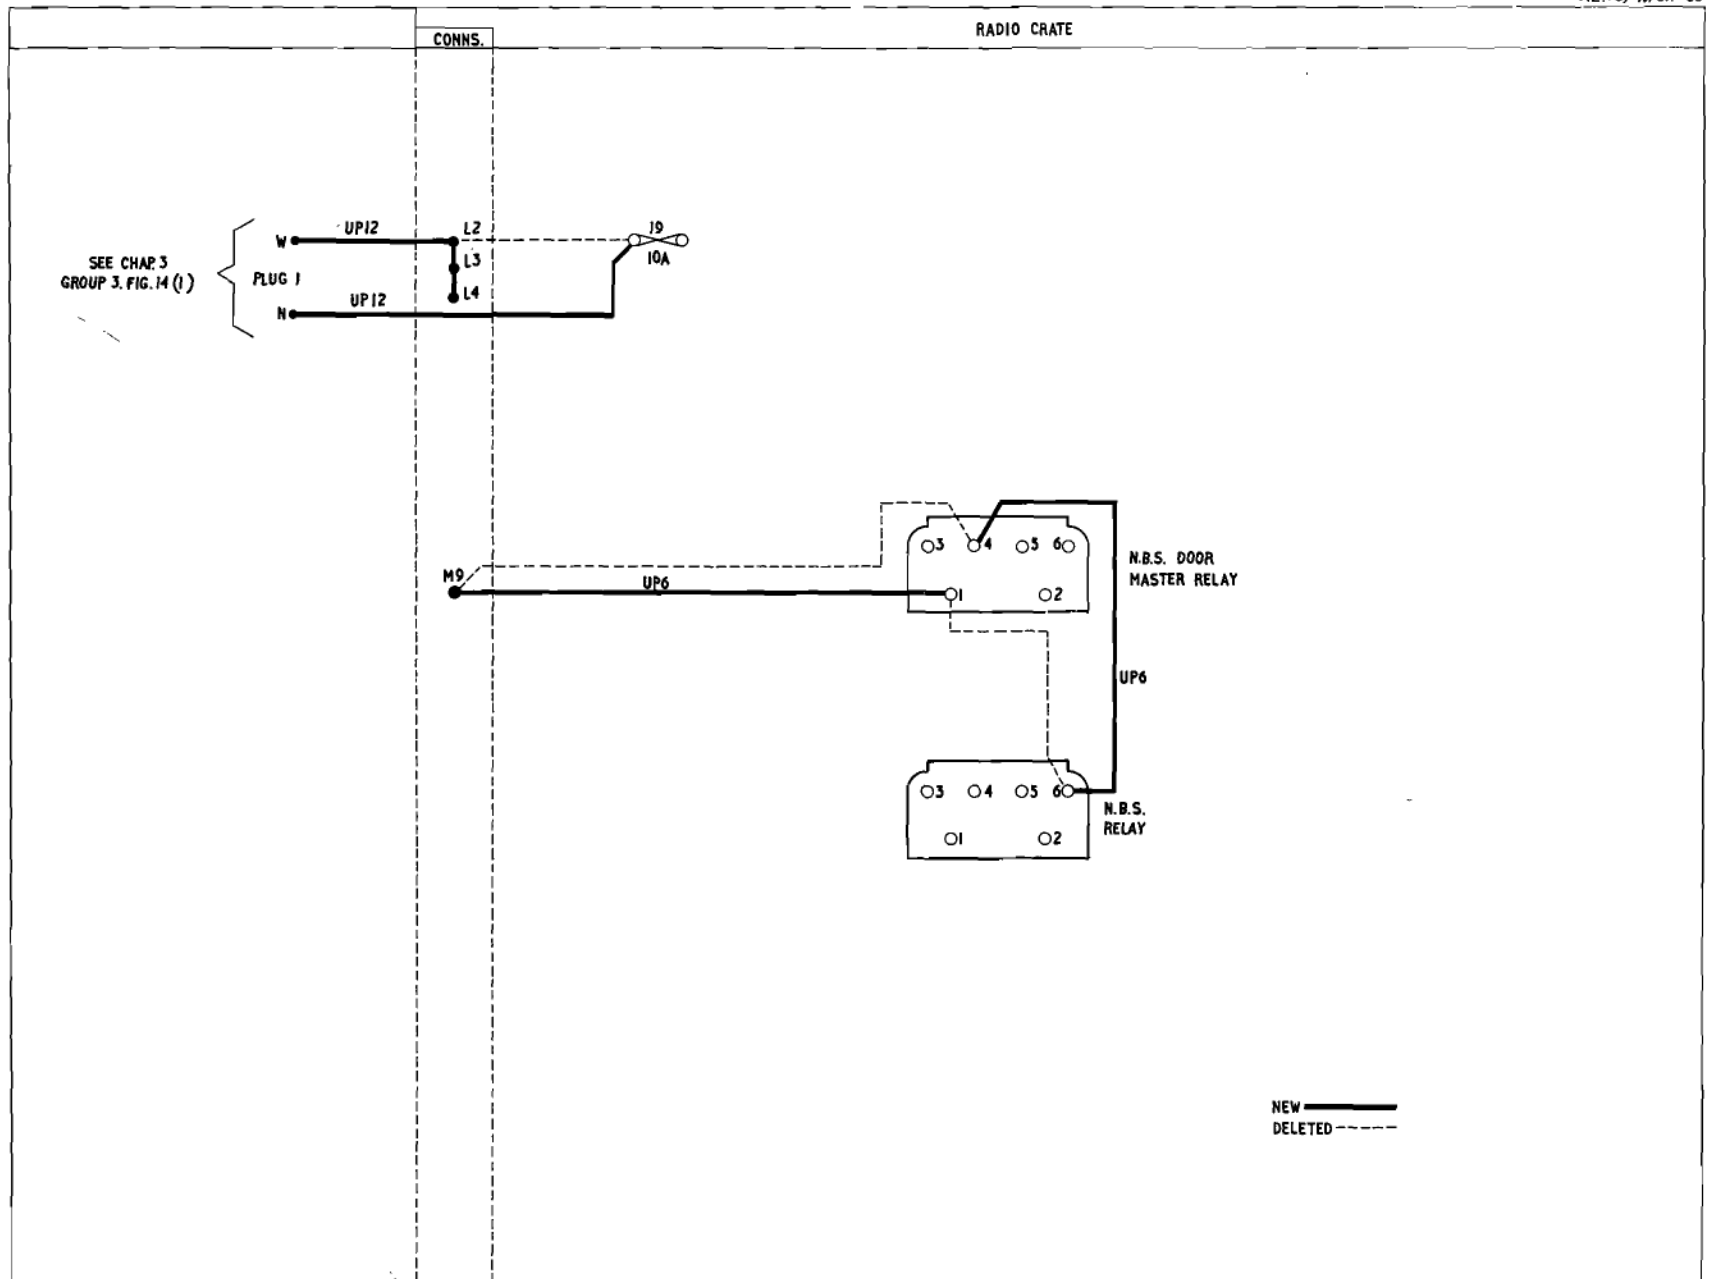

Fig.1 Alterations to Figs.18(1),19(1), 20(1) and 22 ( post Mod.3171)
2. The N.B.S. relay and N.B.S. door master relay are connected as indicated in figs. 1 and 2 of this appendix, this alteration affects the operation of the bomb doors in the auto condition and is fully described in Vol. 1, Book 3, Sect. 5, Chap. 7, Group 2, App. 3 of this publication. The remainder of the normal bomb control is unaffected.